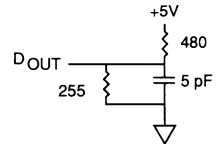

Fig. 2 OUTPUT LOAD EQUIVALENT
6. tHZCE and tHZWE are tested with CL = 5pF as in Fig. 2. Transition is measured ± 500mV from steady state voltage, allowing for actual tester RC time constant.